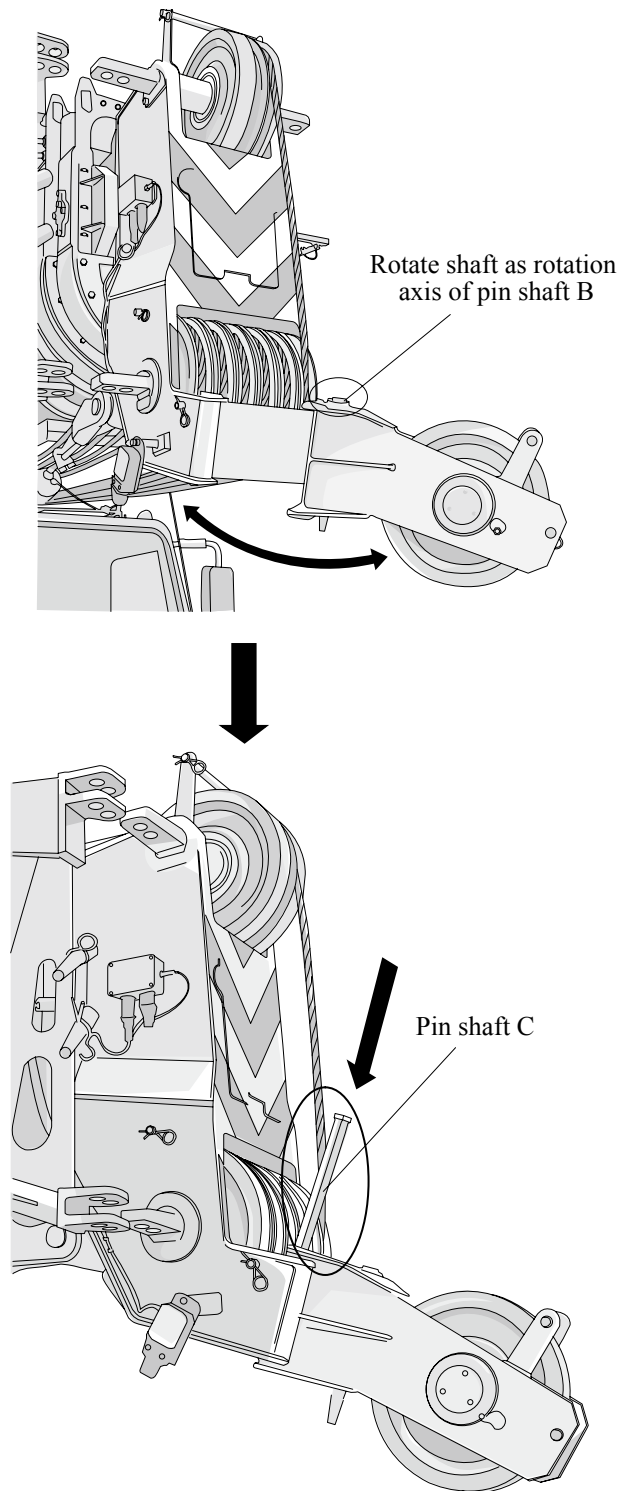

Figure 9-21
- a. Remove pin shaft A, rotate as rotation axis of pin shaft B, make the arm end single pulley C2 hole to align at the main crane boom C1 hole, plug pin shaft C as shown in the Figure9-21, and steer the auxiliary lifting steel wire rope by pulley.